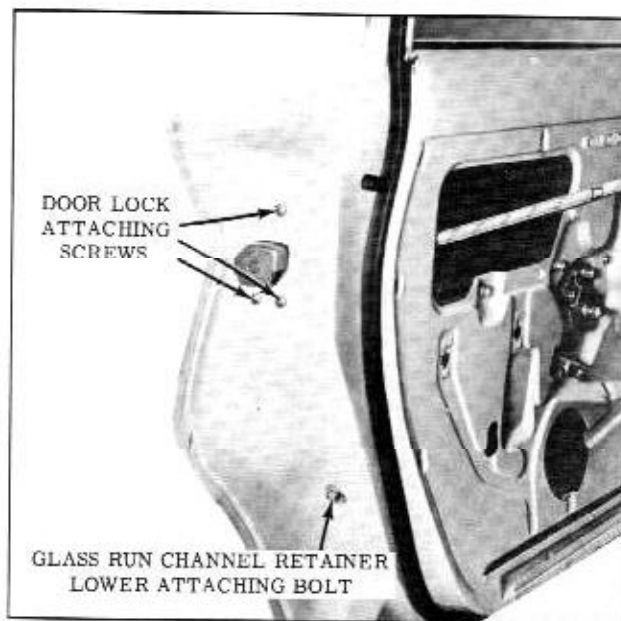

Fig. 15-38 Rear Door Lock and Glass Run Channel Retainer Attachment
2. Remove rear door window glass run channel rear retainer assembly lower attaching bolt from lock pillar facing of door. (Fig. 15-38)